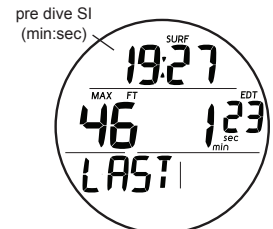

Fig. 134 - FREE SURF ALT 1 (Last Dive's Data)
**FREE SURF ALT 1**, information includes (Fig. 134):